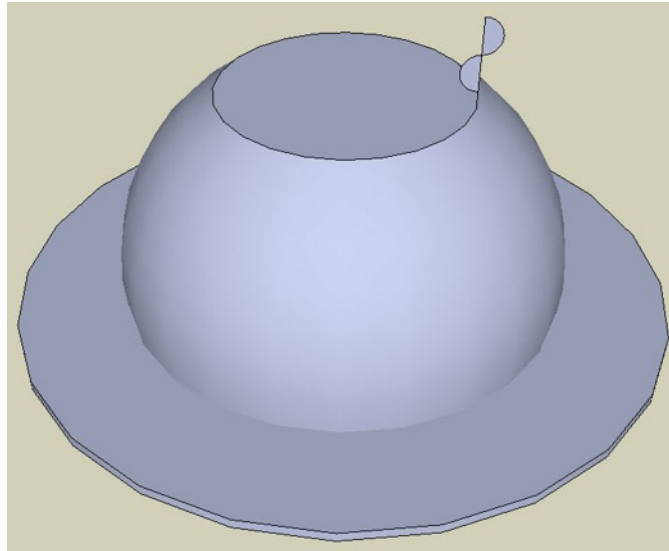

Figure 99. The main body of the Planter rotated with the Follow Me tool and the top circle reinstated
- Again, use the Follow Me tool to rotate the main body of the Planter using the lower circle again as shown in Figure 99.
- The top circle will disappear once the Follow Me has completed. Draw a line along one sector of the top edge of the planter and the circle face will be reinstated as shown in Figure 99.